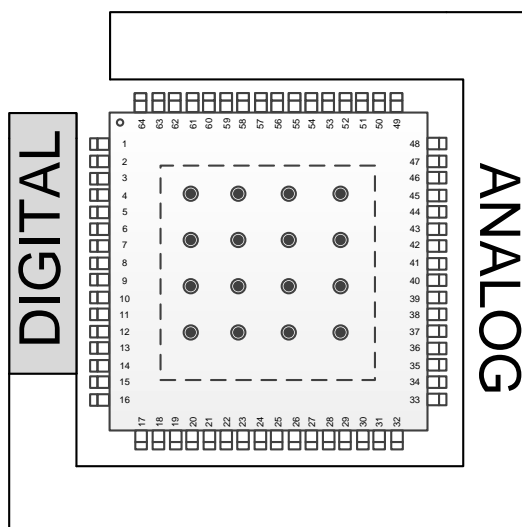

Figure 122. AMC7836 Example Board Layout — Component Placement
- The digital and analog sections should have proper placement with respect to the digital pins and analog pins of the AMC7836 device (see Figure 122). The separation of analog and digital blocks allows for better design and practice as it ensures less coupling into neighboring blocks and minimizes the interaction between analog and digital return currents.